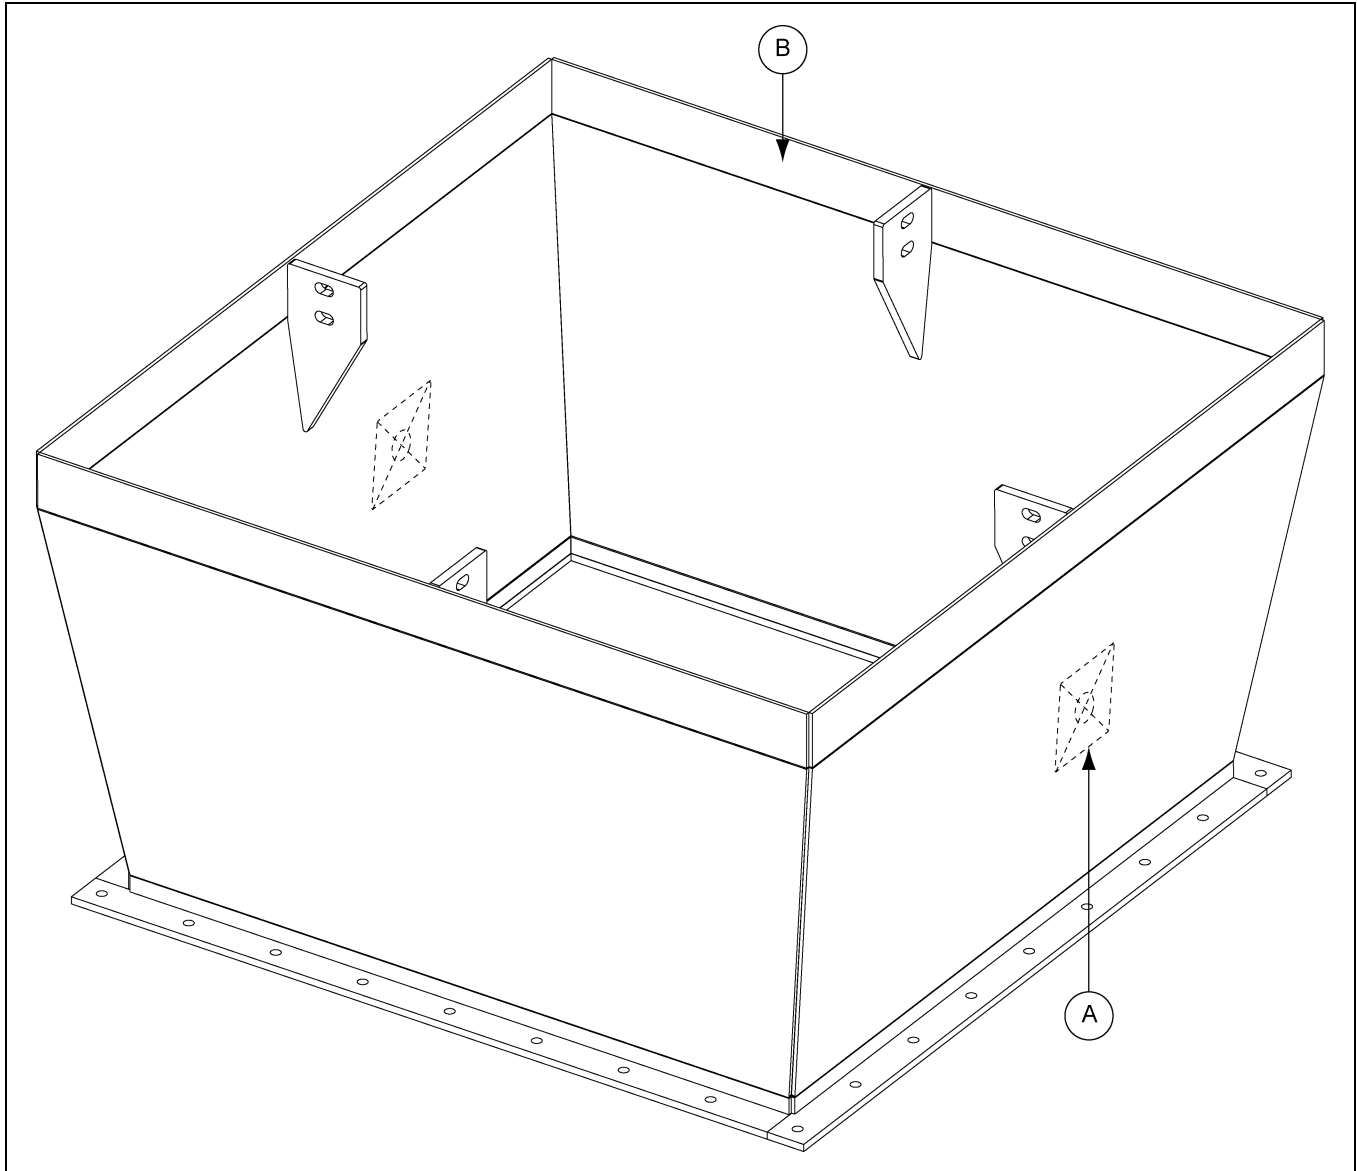

Figure 6C
1. Locate the traced outlines (A) that were created on the inside wall of the center well (B) during the track installation. (See Figure 6C.)